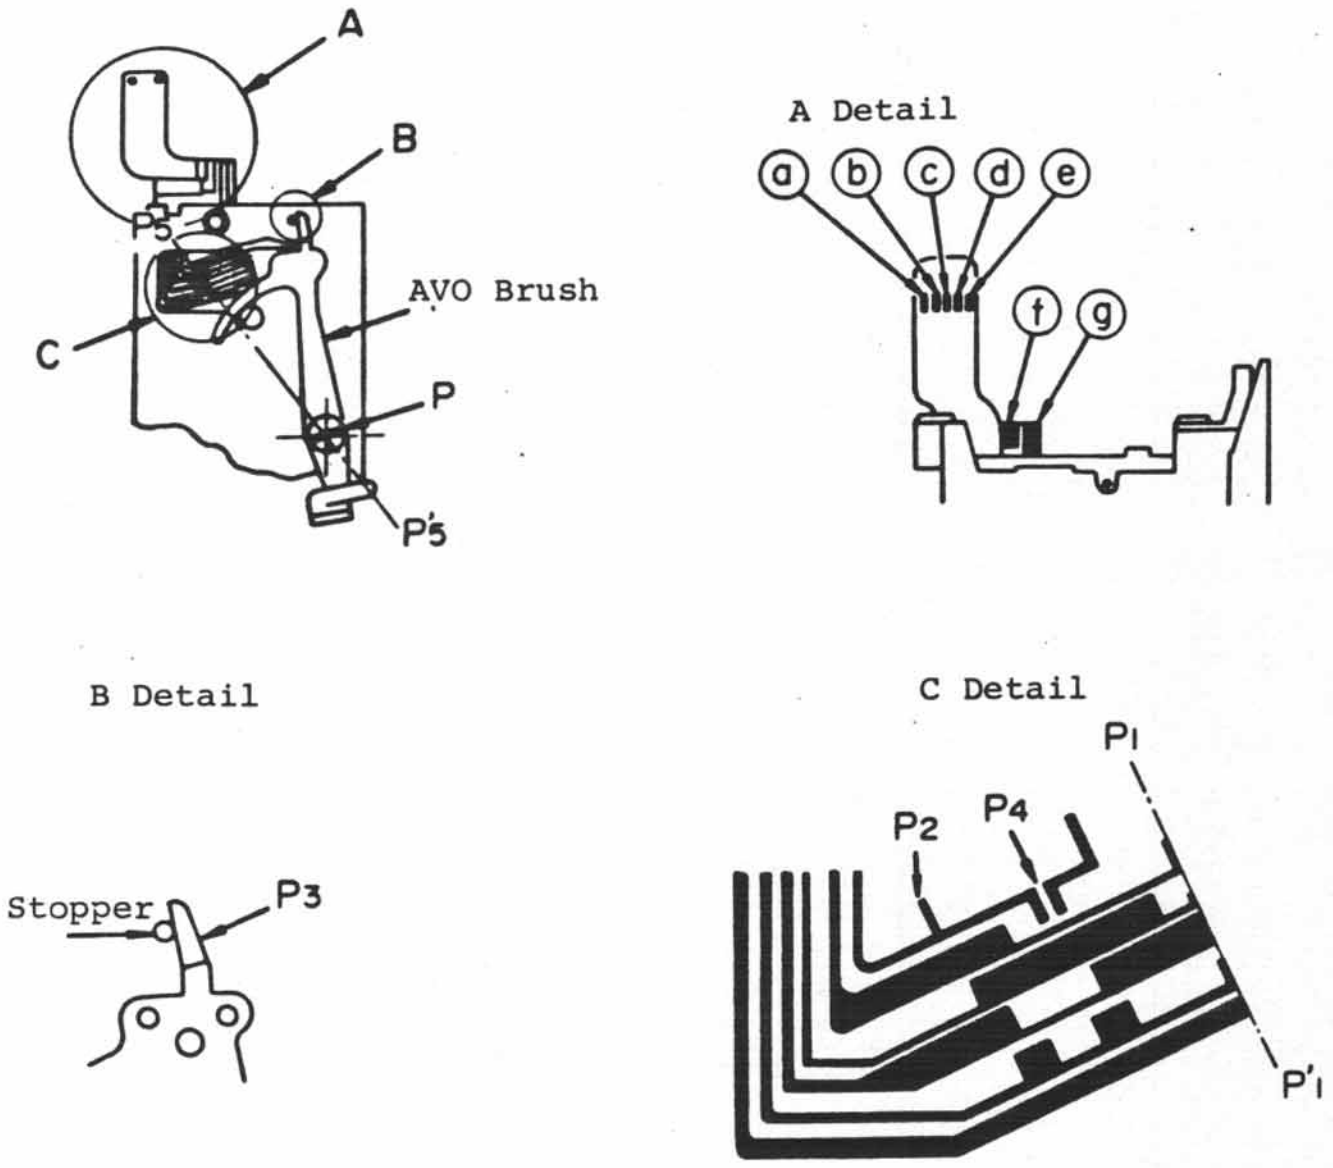

Fig. 2-9
1. Set the AVO brush at P1 - P1'. (Fig. 2-9)
1. Position the AVO brush against its stopper (Fig. 2-9, Detail B).
1. Two ohmmeters are necessary for this test. They should both be set on low OHM scales. Place the plus (+) lead of meter A on "f" and the minus (-) on "a" (Fig. 2-9).
2. Place the + lead of meter B on "g" and the - lead on "a" (also Fig. 2-9).